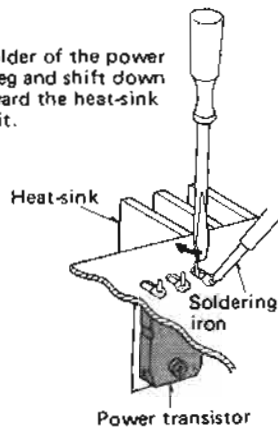

Fig. 4
2. Unsolder the power transistor as in Fig. 4.